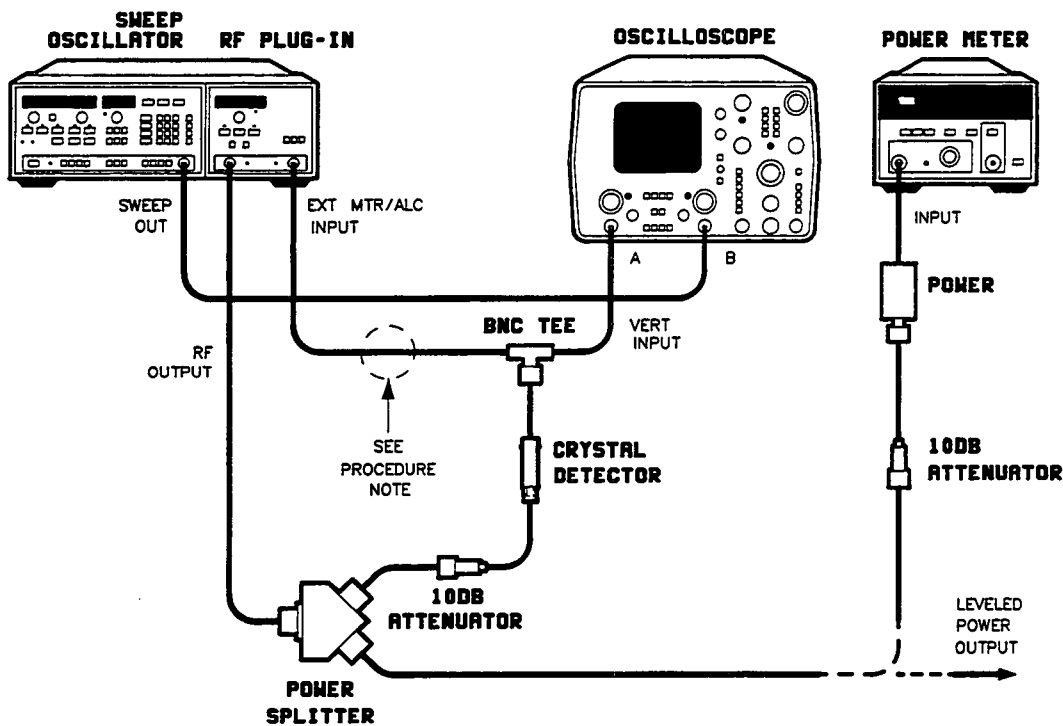

Figure 3-8. External Crystal Detector Leveling Setup
1. Connect the equipment as shown in Figure 3-8. Turn the instruments on and allow them to warm up for at least 30 minutes.
4. To use leveled RF power output to test external equipment, make the connection at the point marked leveled power output in Figure 3-8.